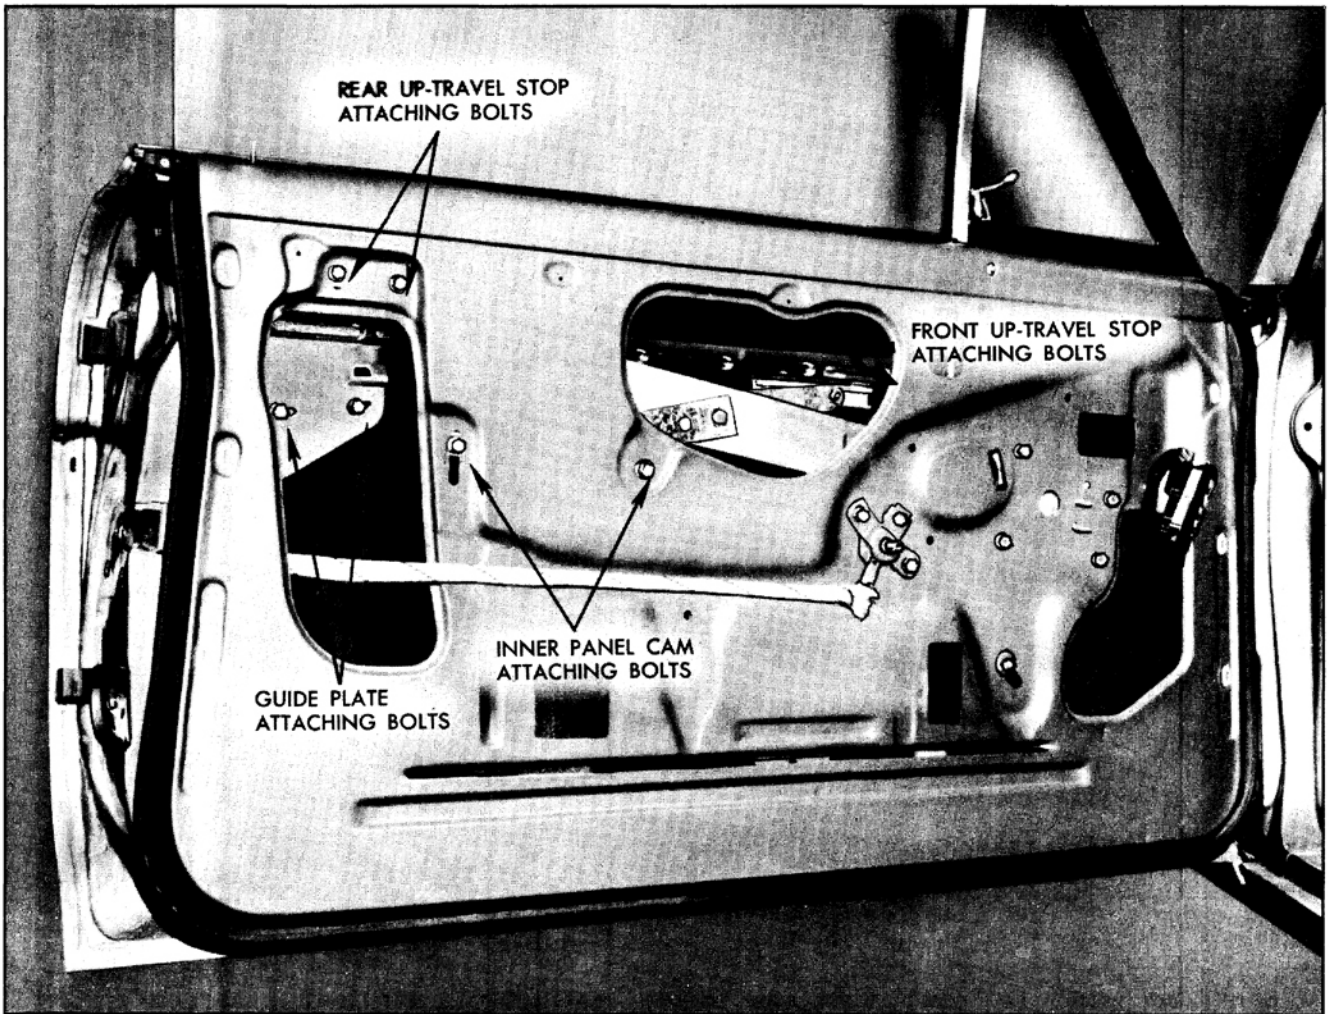

Fig. 16-335 Front Door Hardware
3. Remove two bolts securing rear up-travel stop to door inner panel and one bolt securing front up-travel stop to glass lower sash channel and remove stops from door. (Fig. 16-335)